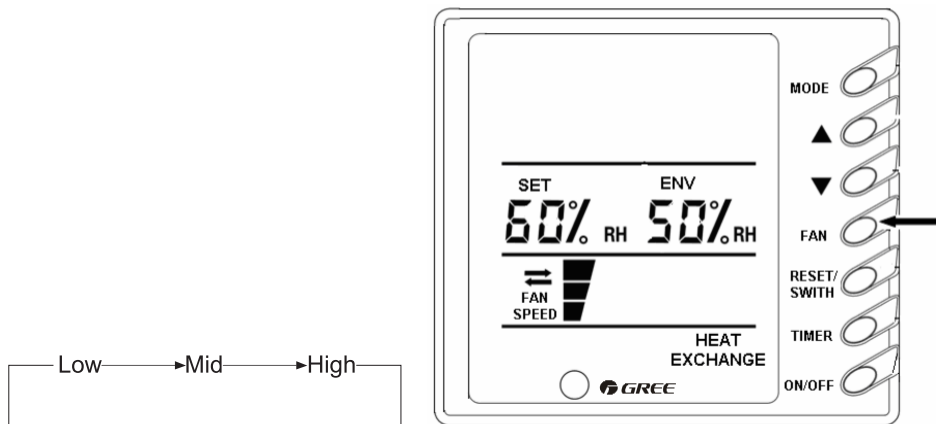

Fig.3
2) Fan Speed Control (Fig.3,4)(The figure is about relative display area, the same as below)
1. During half-half air exchange, With each press of FAN button, the fan speed will change in the following order(Fig.3):